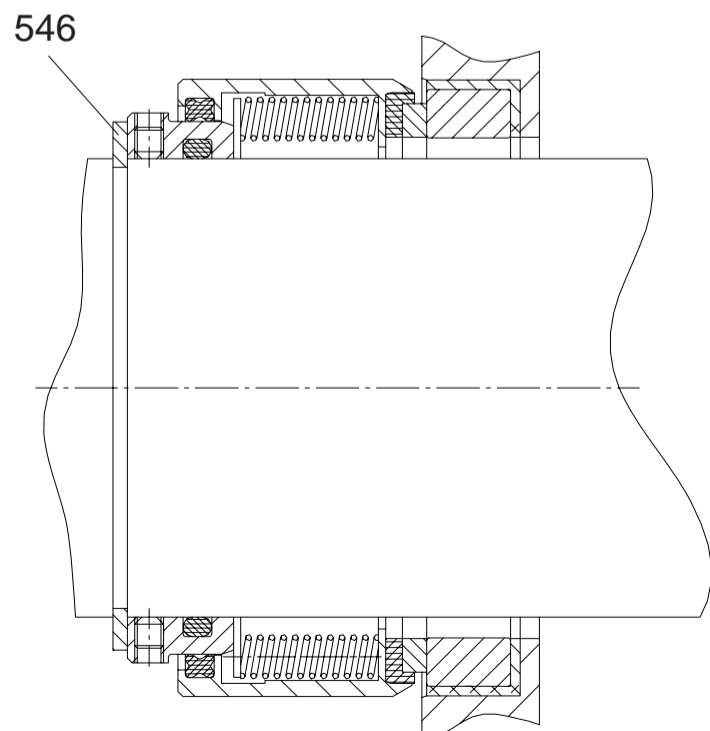

Fig. 15
d) Stainless-steel-shroud seal - type "X" (Fig. 15)